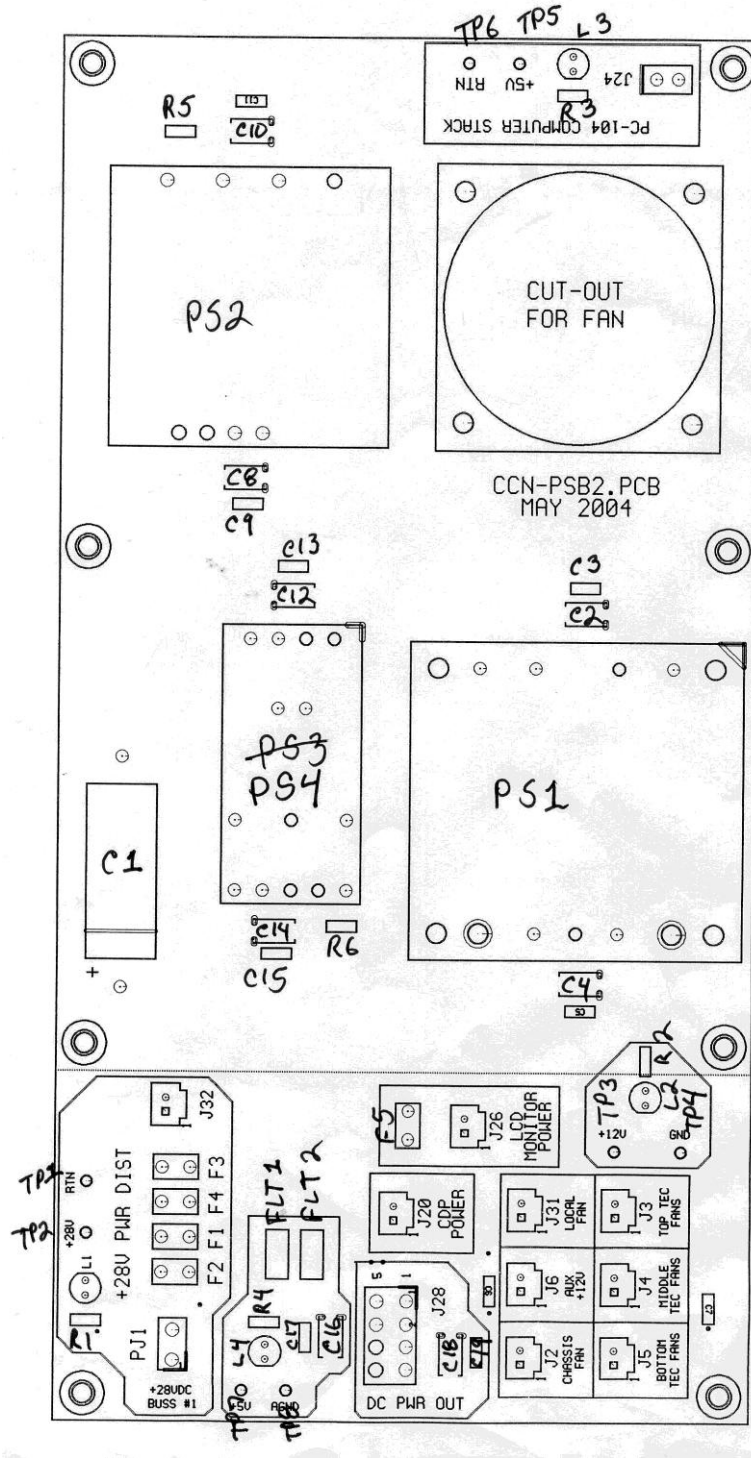

Figure 2: Power Supply Printed Circuit Board (ABD-0084)
| Figure 2: Power Supply Printed Circuit Board (ABD-0084) | 7 |
7. Disconnect the TEC fan leads, J3, J4, J5 which are on the lower right of the power supply board. See Figure 2 and 3 for the location of the connectors on the power supply and CCN control boards (need to use the silkscreen for series 3 boards).